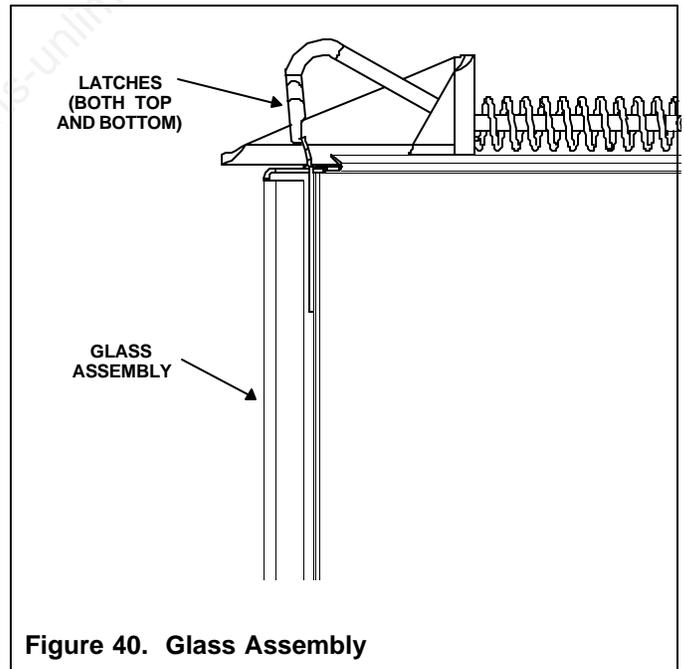

Figure 40. Glass Assembly
- Remove the glass door from the unit (see Figure 40).